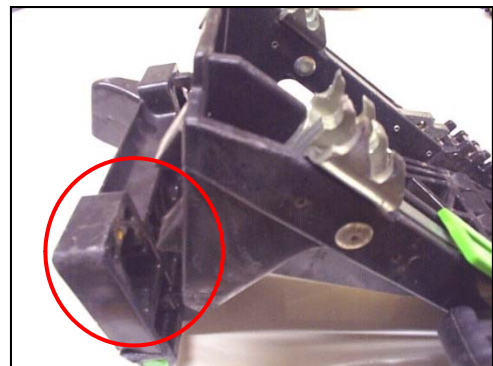

Figure 4: Missing Face Plate Tabs
- e) The Face Plate tabs should be checked to ensure that they are neither missing (see Figure 4), nor bent, nor have a hairline crack where they meet the Face Plate. In the latter case, the chock may still appear to be fully functional. However, in all cases the chock is considered to be non-functional and must be replaced.